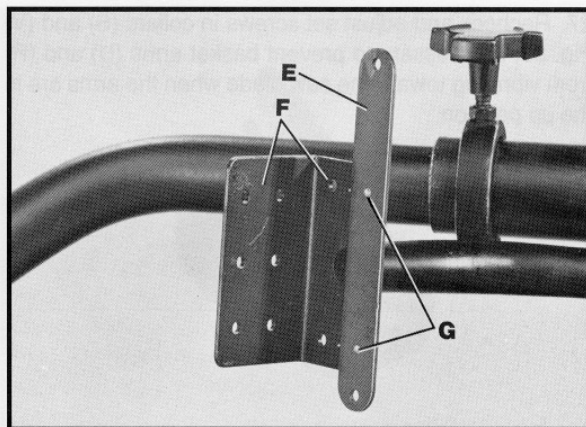

Fig. 43
3. **IMPORTANT:** If you are assembling the Deluxe Uniguard to the Delta 10" Tilting Arbor Saw, the auxiliary switch mounting bracket (E) Fig. 43, must be assembled to switch mounting plate (F) with two 1/4 inch-long round-head screws (G) supplied. Auxiliary switch bracket (E) has two tapped holes to accept screws through the rear of the switch plate (F).
4. Assemble switch box to mounting plate (F) and/or (E) Fig. 43, as necessary. **IMPORTANT: WIRING SWITCH BOXES TO POWER CIRCUIT SHOULD BE DONE BY A COMPETENT ELECTRICIAN AND ALL APPLICABLE ELECTRICAL CODES AND STANDARDS SHOULD BE FOLLOWED.**